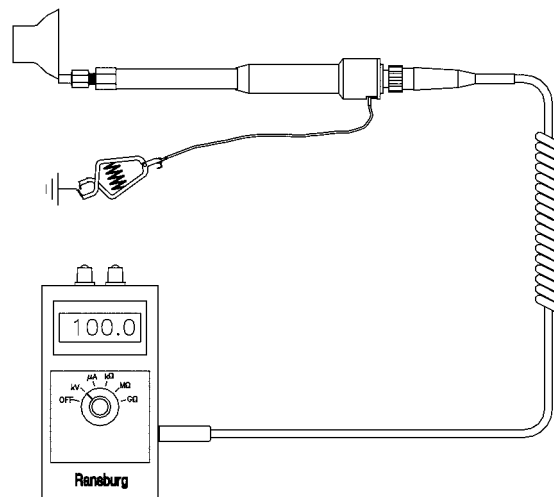

Figure 8: Measuring High Voltage On Bells or Disks
8. Make and maintain sure contact between the test probe and the applicator (see Figure 8).
➤ Ensure that the applicator is **NOT** rotating when contacting it with the probe. Also, to get proper readings on resistive applicators, the probe must be placed in contact with the atomizing edge of the bell or disk as shown in Figure 8. As this edge is sensitive to mechanical damage, use care when contacting it with the probe. Rough handling may cause damage to the applicator.